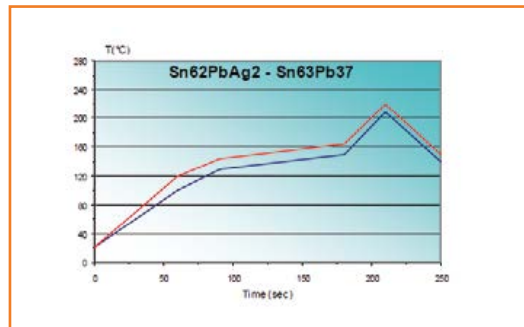

Figure 6. Examples of curves recommended by solder manufacturer MBO.
3. Quality of the solder pastes used: those for SMDs are characterized by the eutectic point: the melting point of the alloy, which is lower than the melting point of each of the metals forming it. The quality of the flux is crucial, the wettability depends on it (**Figure 6**).